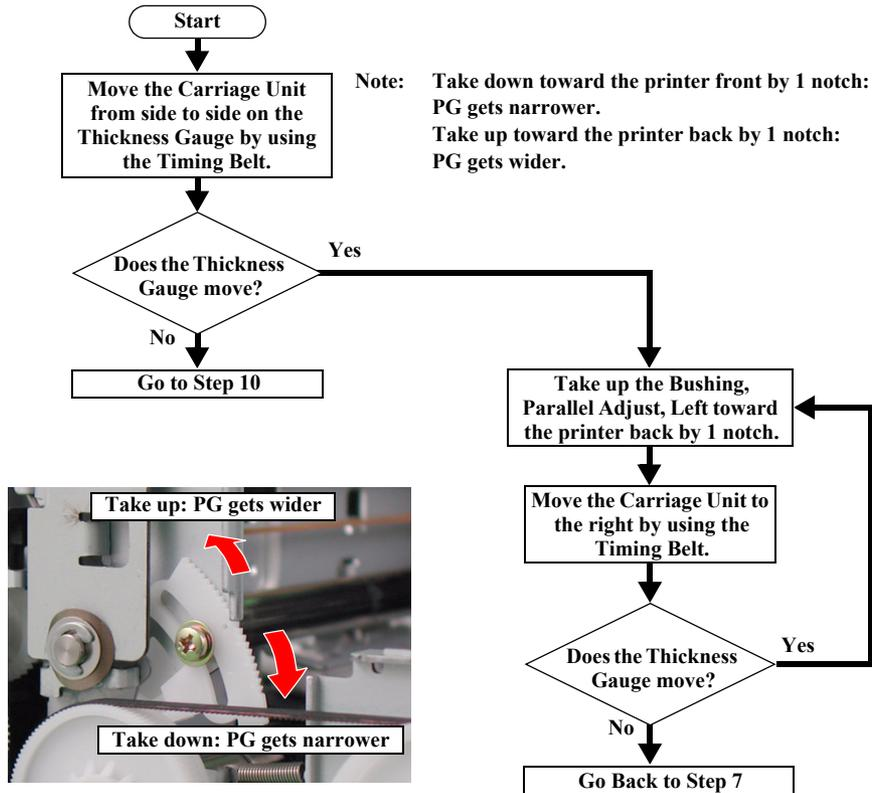

Figure 3-11. PG Checking (1)
- After finishing PG Adjustment on the right, move the Carriage Unit to the left edge of the printer again, then check PG according to the flowchart in the Figure 3-11.